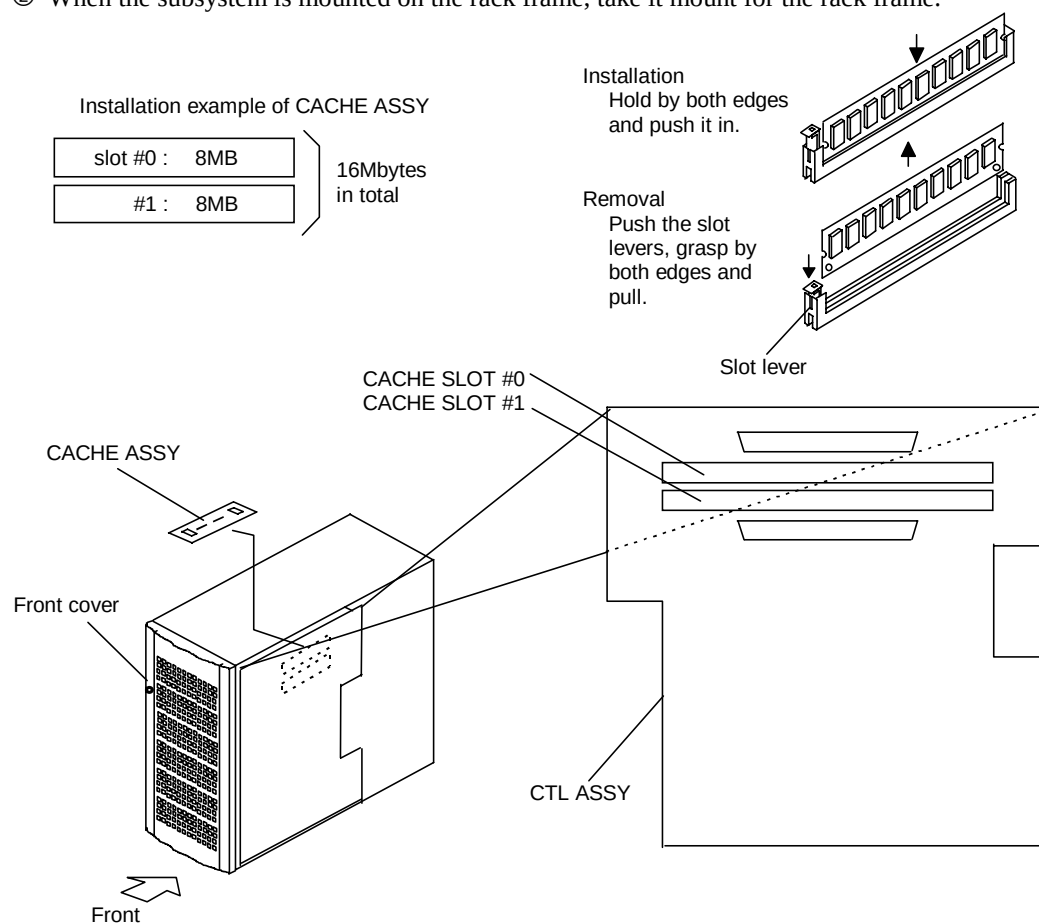

Figure 12.1 Replacing CACHE ASSY
12. Replacing CACHE ASSY (See Figure 12.1.)